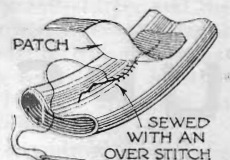

Fig. 7. Careful sewing will often save a blown-out auto tube
**M**ANY motorists are under the impression that a tube is beyond repair if it blows out in a long rip. However, it is possible to save such a tube by sewing up the rip carefully with a needle and silk thread, using an overstitch that will bring the edges of the rent together smoothly. A patch can be applied with rubber cement in the usual way, and it is also possible to vulcanize the tube with a five minute vulcanizer by using the oblong patches and overlapping them until the rip is completely covered. Fig. 7 shows how to sew up the tube and apply the patch.